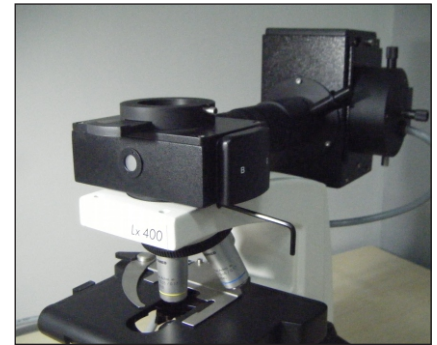

Fig. 2
2. Remove observation head from dovetail adapter and fix sliding filter block in place of observation head by tightening the screw (allen key is provided in kit) as shown in Fig. 2.